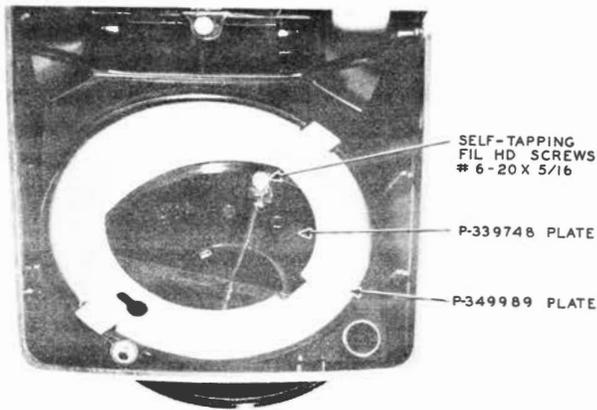
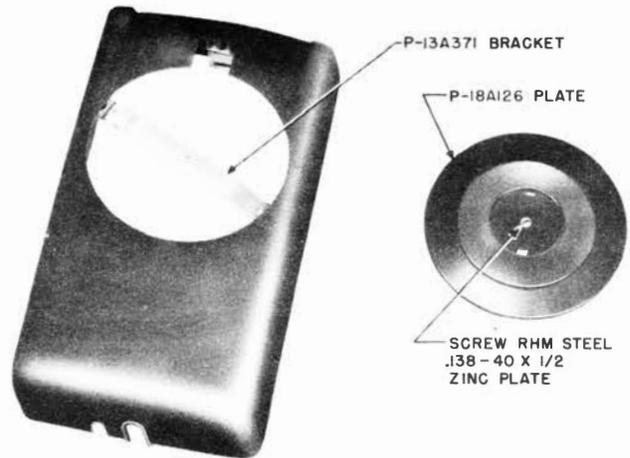
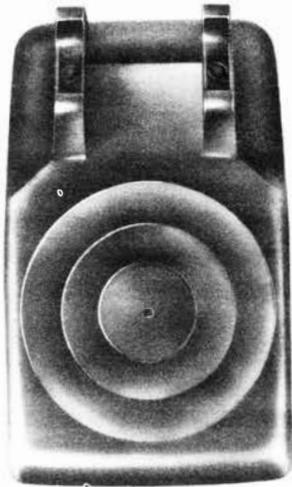

Fig. 27 - 95A Apparatus Blank
Fig. 30 - 554-type Housing with 95B Apparatus Blank, Exterior
Fig. 28 - 500-type Set with 95B Apparatus Blank, Exterior
**4.05** Fig. 27 shows the assembly of the 95A apparatus blank in 500- and 501-type desk sets. The 95A apparatus blank can be used only on sets with three-legged dial mountings. Fig. 28 and 29 show front and rear views of the 95B apparatus blank assembly in 500- and 501-type desk sets. Fig. 30 and 31 show assembly of the 95B apparatus blank in the 554- and 556-type sets. Note that bracket position is inverted when used on 554- and 556-type sets.